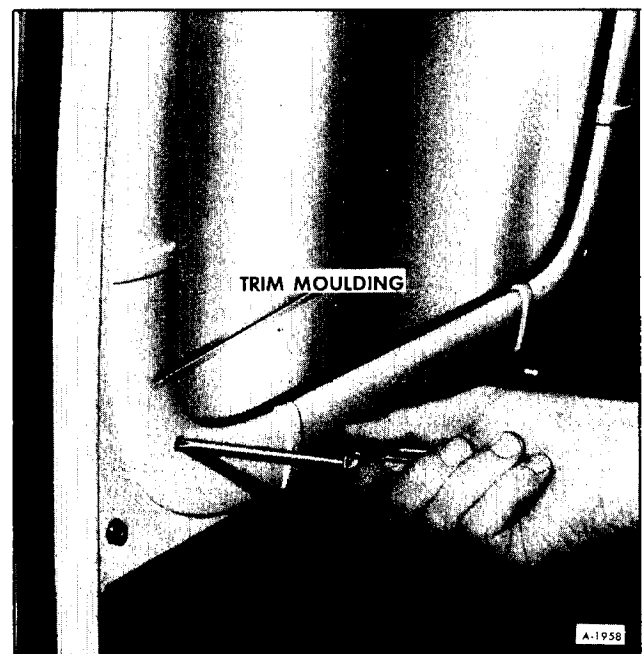

Figure 4—Removing Window Trim Moulding Screws
1. Remove trim mouldings as shown in Figure 4. "A" sash assemblies (sash assemblies in the drivers/-passenger area) will require interior trim panel removal.